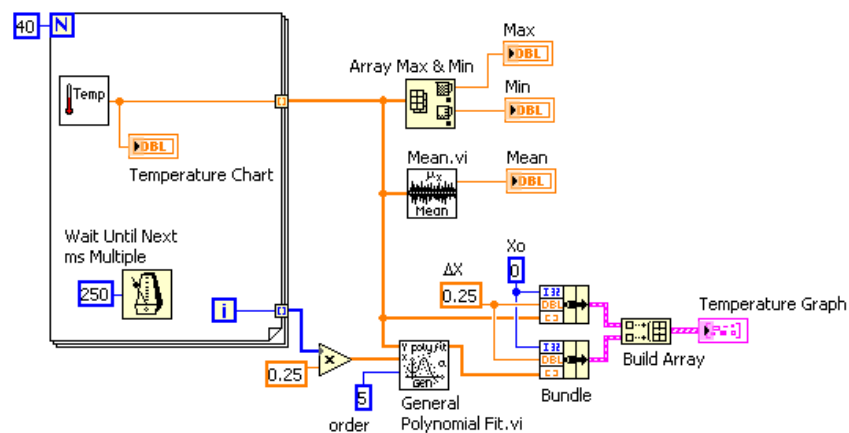

Figure 7.23
- Build the block diagram Figure 7.23.